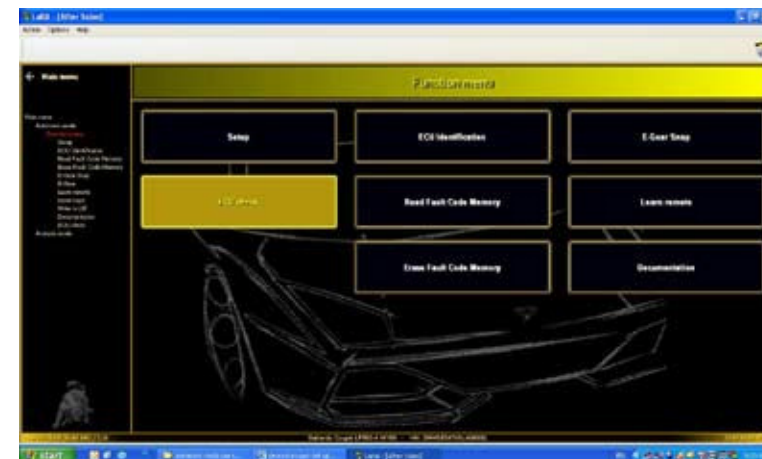

Fig.111
1. Select "ECU check" (**Fig.111**) from the "Menu Functions" screen (Automatic mode).